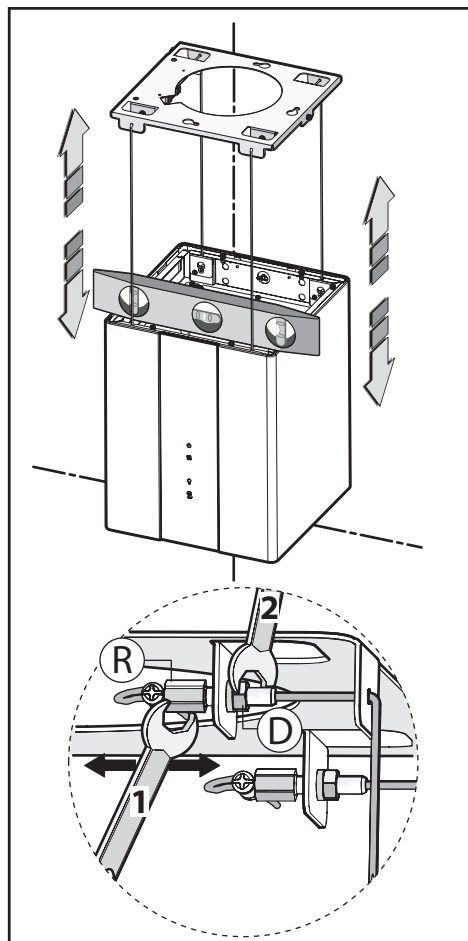

Fig.5
- Using a level align the hood by turning the adjustment screws **R** as shown in figure 5.
- Once the hood is aligned, in order to lock the adjustment screws permanently **R**, tighten the nut **D** as shown in fig. 5.